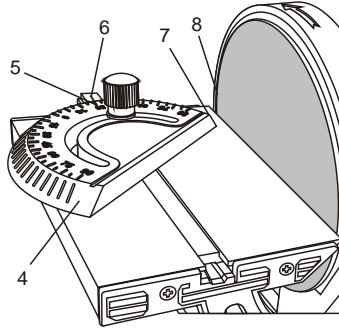

Fig. 9
3. Rotate the miter gauge (4) and align the desired angle (5) with the indexing mark (6) (Fig. 9).